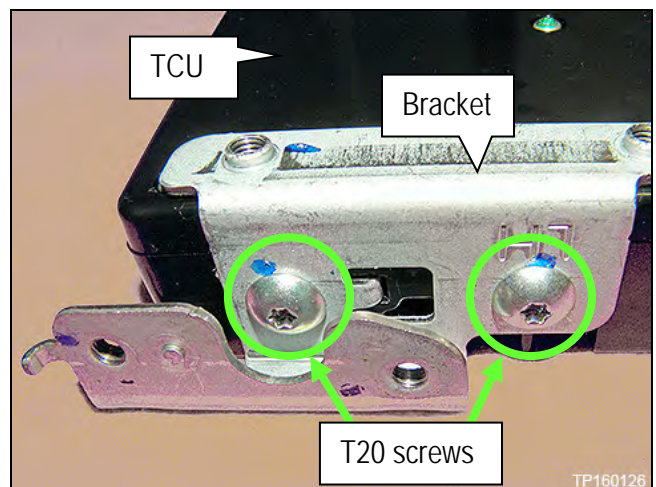

Figure 30D
12. Remove the two brackets from the original TCU and transfer to the new TCU (Figure 30D).
- One side shown in Figure 30D. The other side is similar.